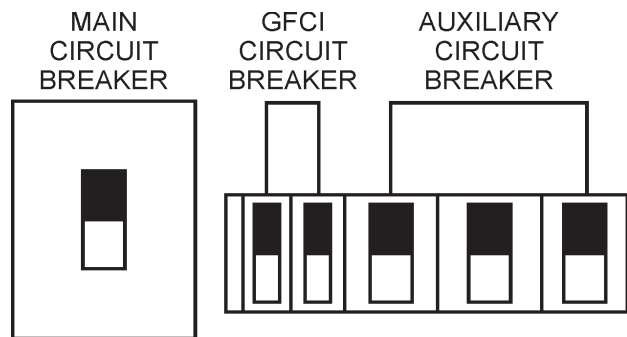

Figure 54. Main, AUX. and GFCI Circuit Breakers (ON)
15. Turn the **main**, **GFCI**, and **aux.** circuit breakers to the **ON** position (Figure 54).